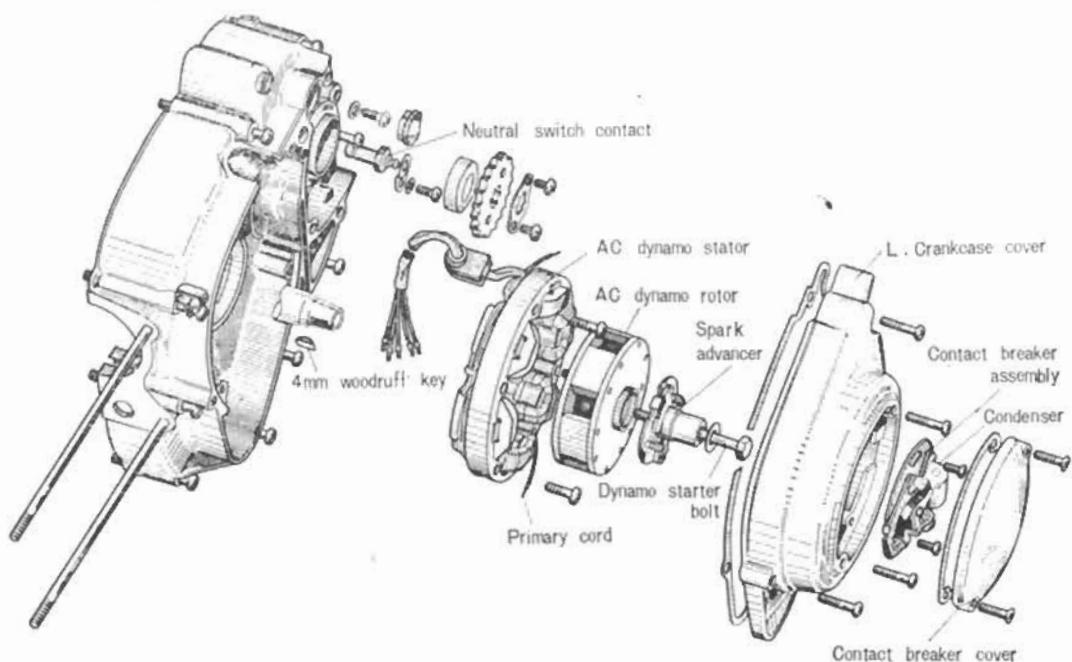

Fig. 3.22
- a. The arrow on the top of the piston must point forward. (Fig. 3-22)